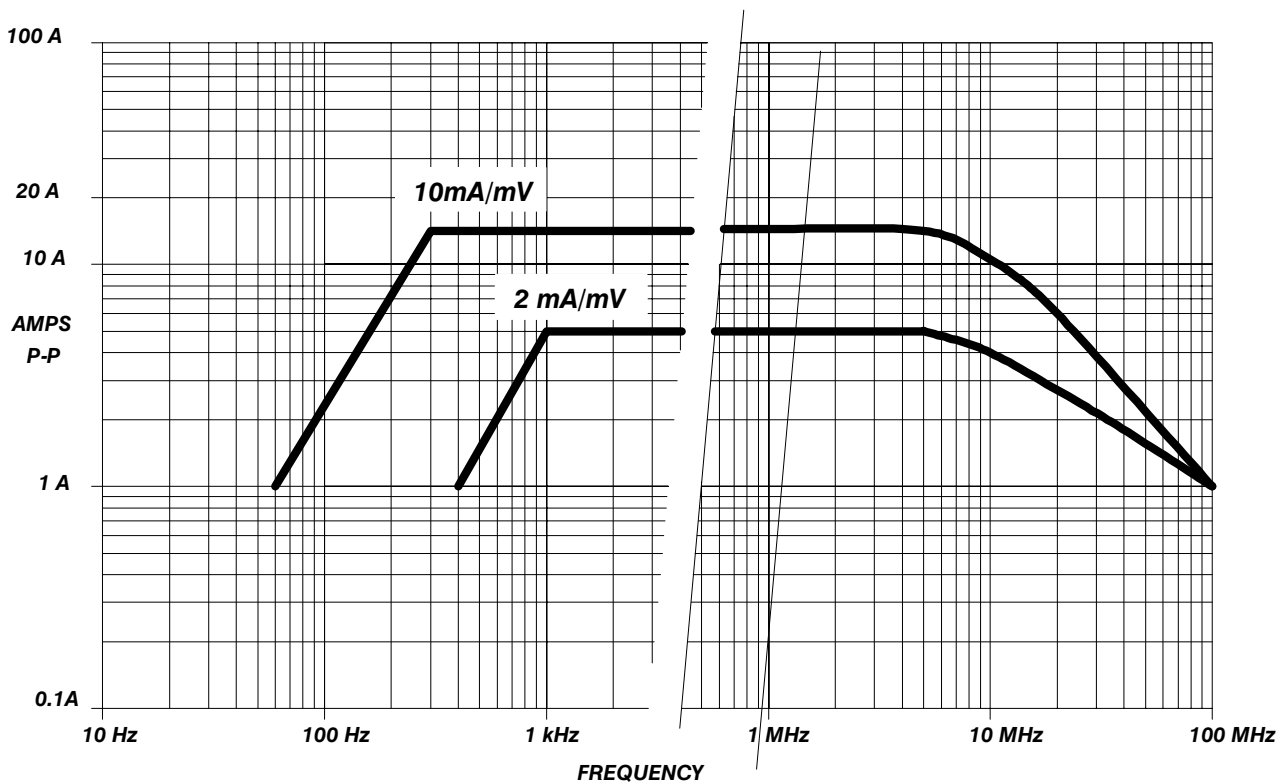

Figure 3: Probe and termination input current vs. frequency derating
Maximum continuous (CW) current	Refer to Figure 3 for frequency derating curves